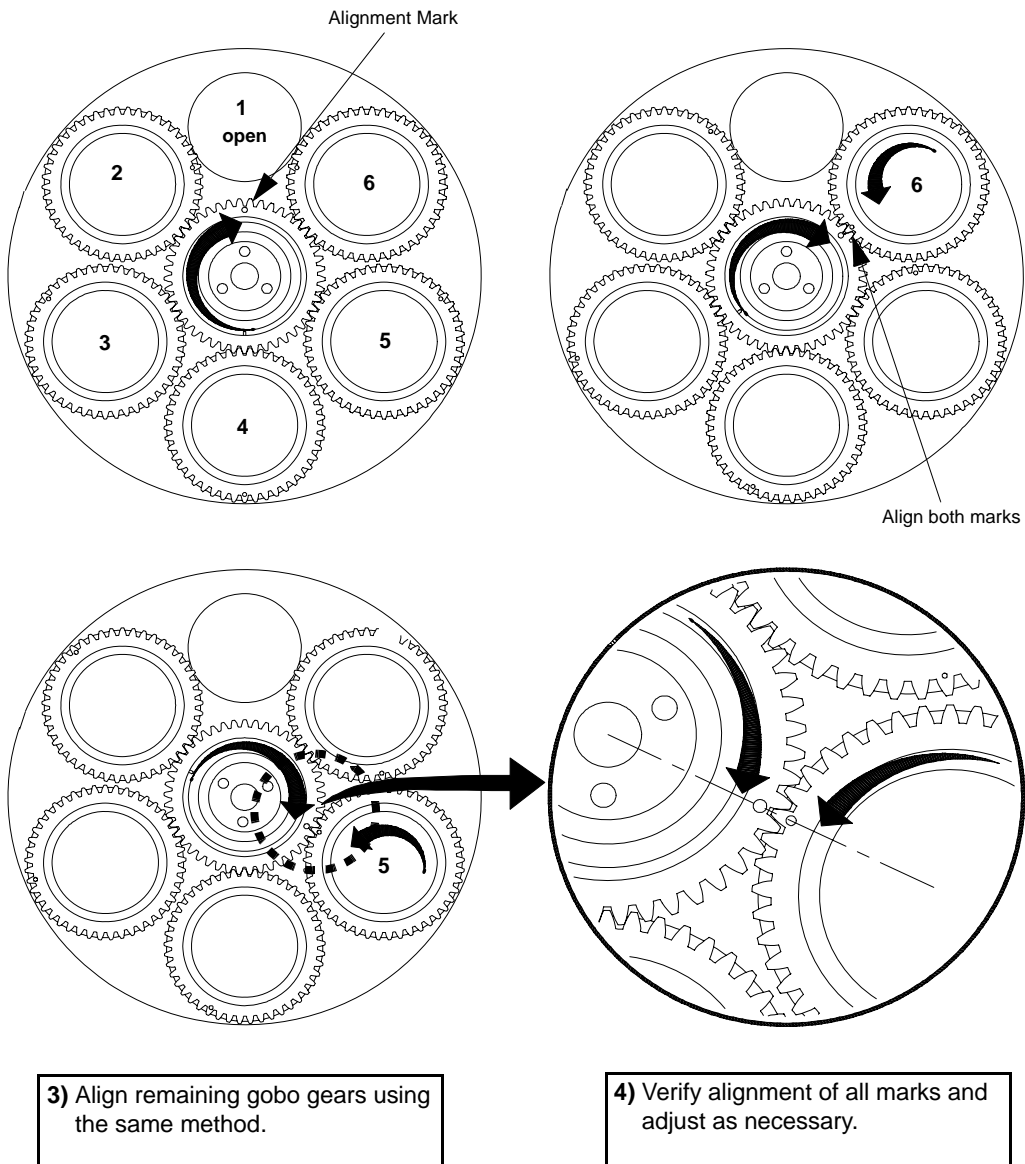

Figure 2-27: Aligning Gobo Planet Gears
- Step 1. Place center (sun) gear at starting point so that timing mark is directly facing Position 1 (open) as shown in Figure 2-27.